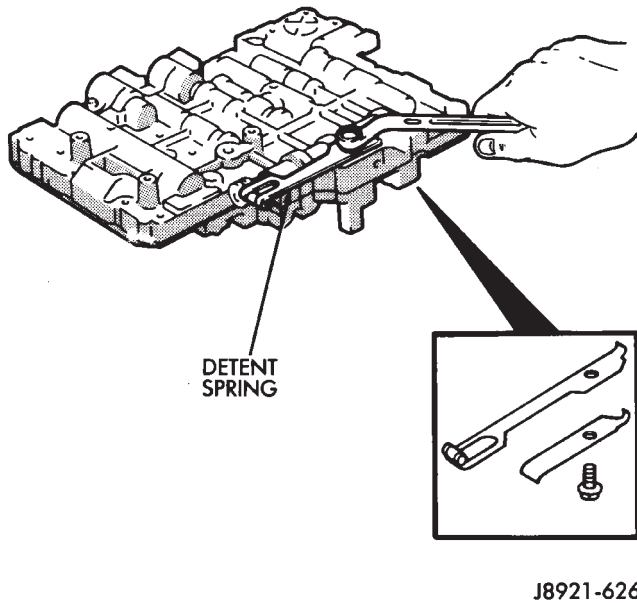

Fig. 3 Removing/Installing Detent Spring
(1) Remove two-piece detent spring (Fig. 3). Note position of spring sections for assembly reference.